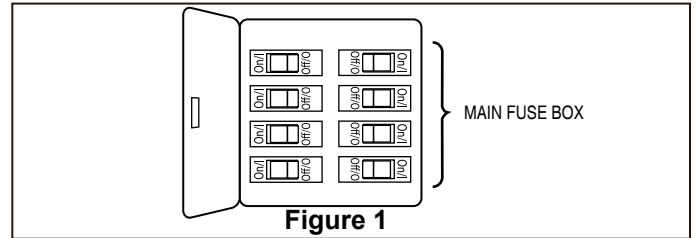

Figure 1
1. Remove one of the two shoulder screws in the hanger bracket. Loosen the second shoulder screw without fully removing it. Assemble canopy by rotating key slot in canopy over shoulder screw in hanger bracket. Tighten shoulder screw. Fully assemble and tighten second shoulder screw that was previously removed. (Figure 1)